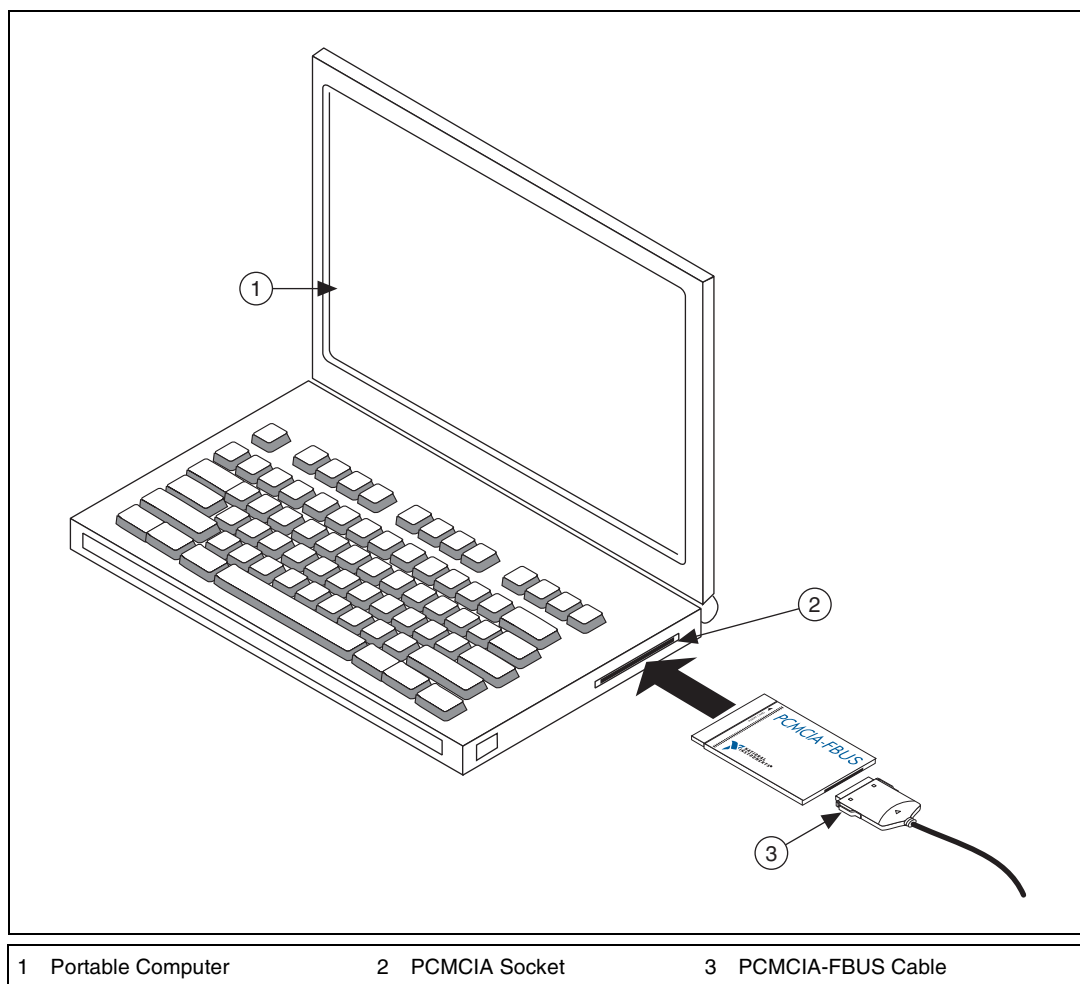

Figure 2. Inserting the PCMCIA-FBUS Card
2. Insert the card into a free PCMCIA (or Cardbus) socket. The card has no jumpers or switches to set. Figure 2 shows how to insert the PCMCIA-FBUS and how to connect the PCMCIA-FBUS cable and connector to the PCMCIA-FBUS card. However, the